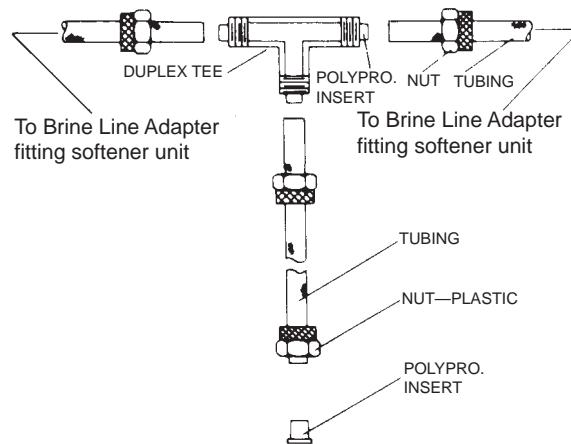
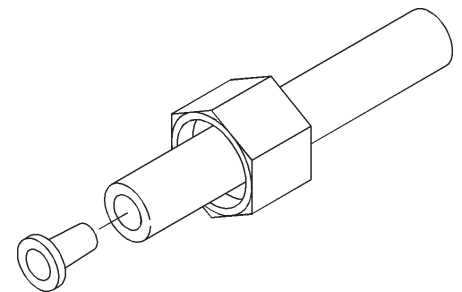

Figure 15. Brine system assembly.
Figure 16. Brine valve tubing.
1. Cut off approximately two inches of brine tubing, then attach the tubing to the brine safety valve. See Figure 15 and Figure 16.